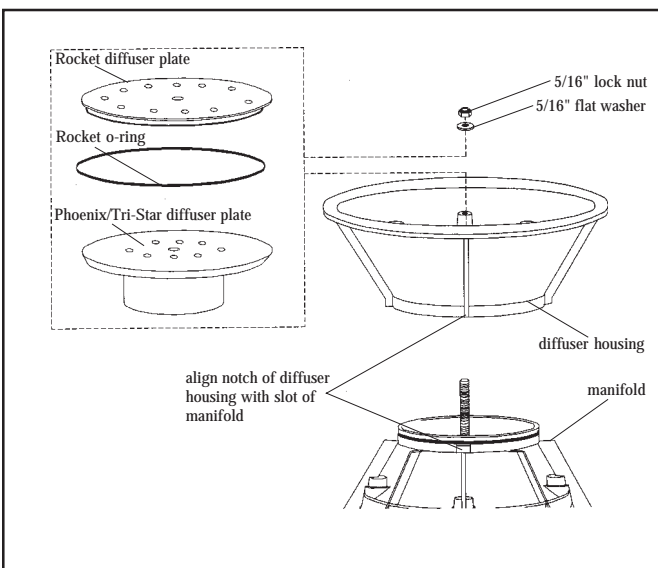

Figure 17
F. Installing diffuser housing - see Figure 17